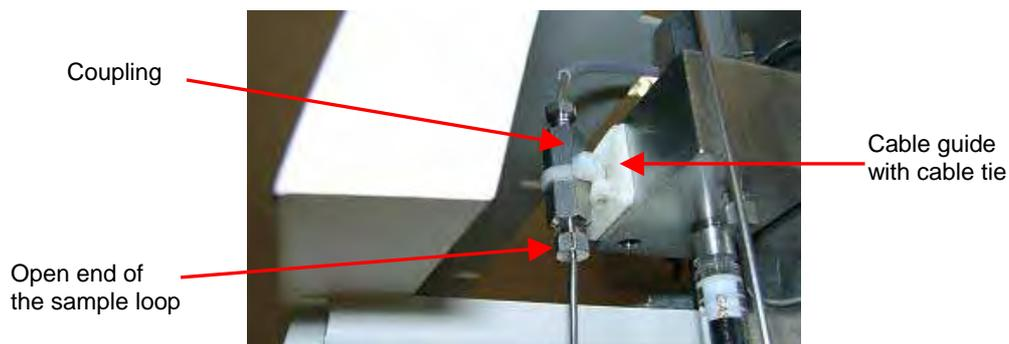

Fig. 29: Syringe block with cable guide
- Adhere the cable guide from the modification kit to the front of the syringe block (left-hand side; → Fig. 29).